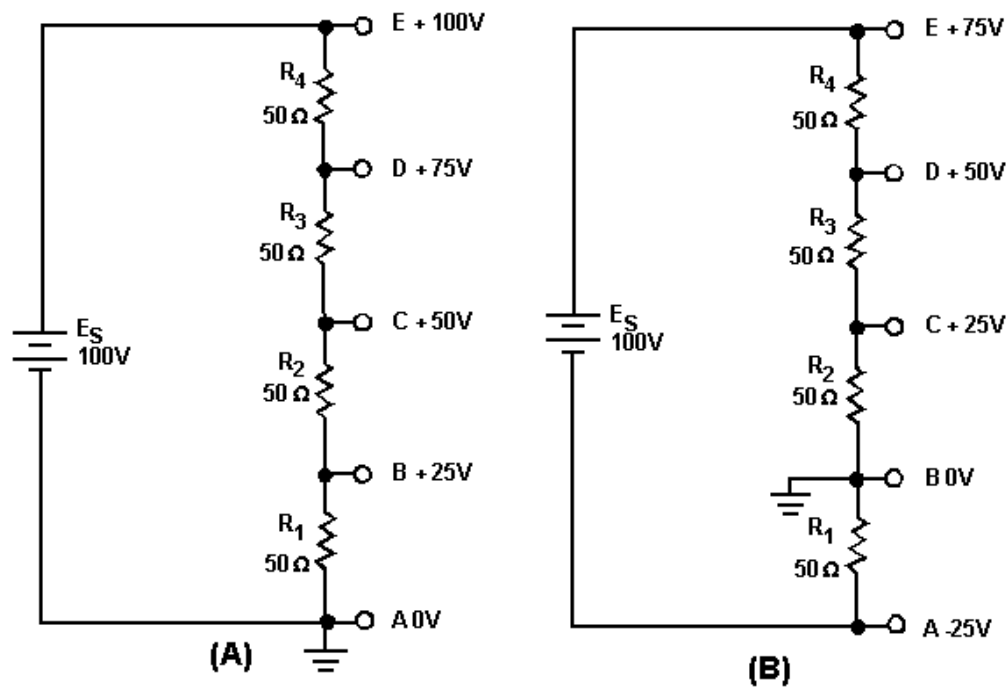

Figure 3-63.—Voltage polarities.
Voltage polarities are considered as being positive or negative in respect to a reference point, usually ground. Figure 3-63 will help to illustrate this point.
Figure 3-63(A) shows a series circuit with a voltage source of 100 volts and four 50-ohm resistors connected in series. The ground, or reference point, is connected to one end of resistor  $R_1$ . The current in this circuit determined by Ohm's law is .5 amp. Each resistor develops (drops) 25 volts. The five tap-off points indicated in the schematic are points at which the voltage can be measured. As indicated on the schematic, the voltage measured at each of the points from point A to point E starts at zero volts and becomes more positive in 25 volt steps to a value of positive 100 volts.
In figure 3-63(B), the ground, or reference point has been moved to point B. The current in the circuit is still .5 amp and each resistor still develops 25 volts. The total voltage developed in the circuit remains at 100 volts, but because the reference point has been changed, the voltage at point A is negative 25 volts. Point E, which was at positive 100 volts in figure 3-63(A), now has a voltage of positive 75 volts. As you can see the voltage at any point in the circuit is dependent on three factors; the current through the resistor, the ohmic value of the resistor, and the reference point in the circuit.